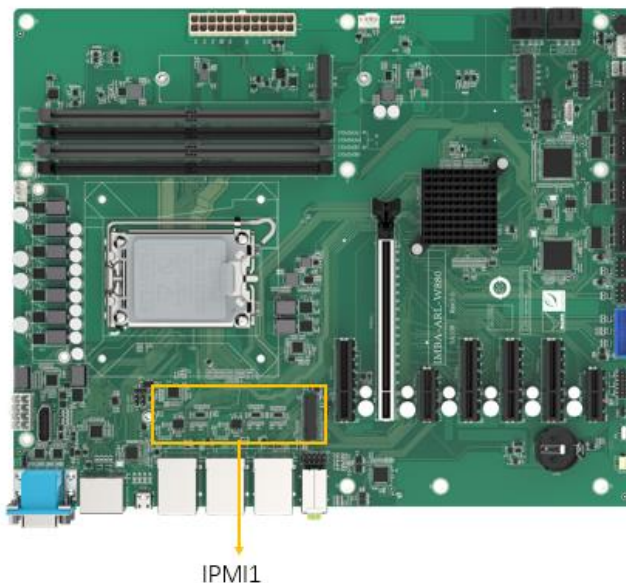

Figure 3-16: IPMI Slot Location
- CN Location:** See Figure 3-16